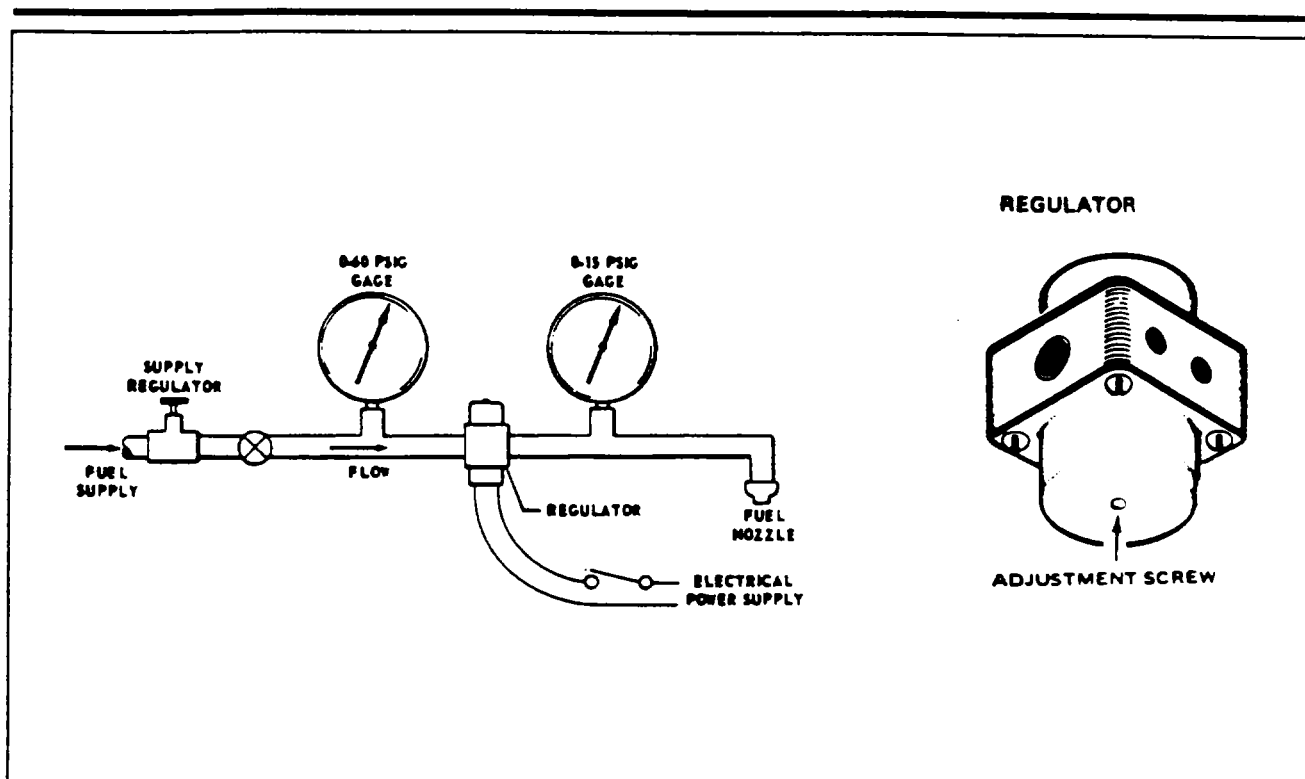

Figure 21-17. Test Setup for Fuel Regulator and Shutoff Valve
1. Install the regulator in a test stand similar to that shown in Figure 21-17.